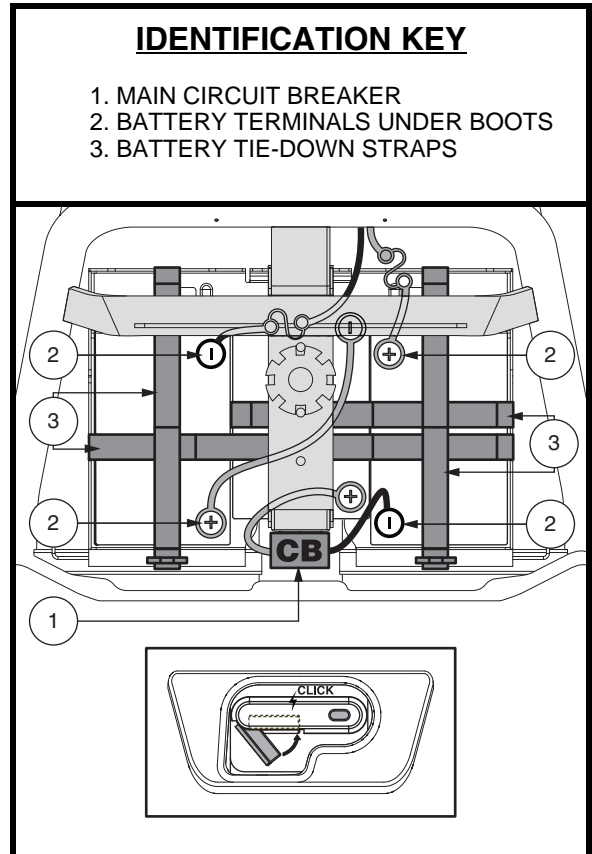

Figure 12. Battery Removal/Installation Terminals and Connections
6. Place a new battery in each battery well according to the battery wiring diagram as shown in **figure 12.**